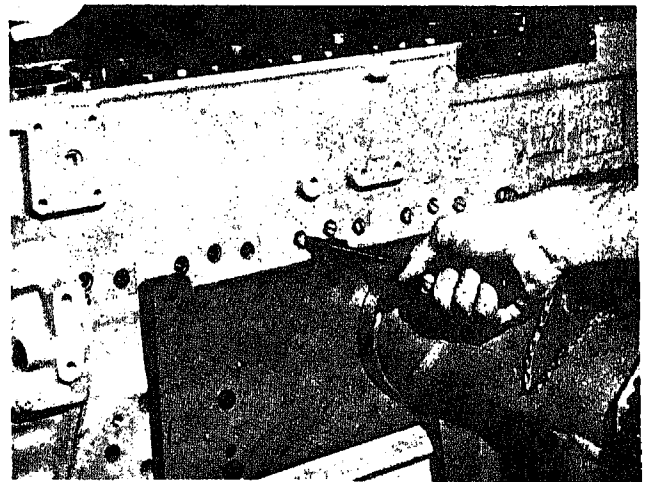

Fig. 14-1-34. Installing tappet guide screws
3. Install tappet guide screws (with nylon inserts), Fig. 14-1-34; tighten to 95/115 in.-lb. [1.0925/1.3225 kg m].